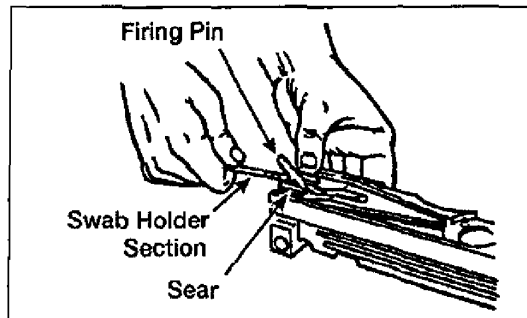

Figure 071-022-0001-36. Testing the firing pin release
(12) Test firing pin release. Trip the firing pin by depressing the top of the sear with a section of a swab-holder. If doing so makes a sharp metallic sound, the firing pin spring is in good condition (figure 071-022-0001-36).